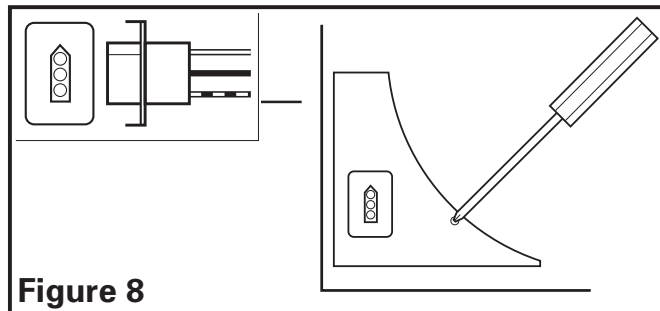

Figure 8
1. Reinstall the fan's wire compartment cover. Rotate the blower wheel by hand to ensure it spins freely. Plug the fan's quick connect motor cord into the receptacle. This cord will only fit one way into the receptacle (**Figure 8**).